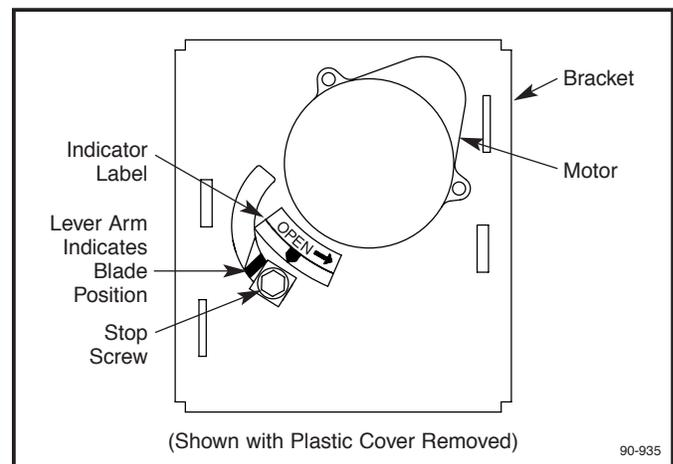

FIGURE 10 – DAMPER MOTOR AND BRACKET
4. If all is set up properly, the blower will turn on and the damper will open. Blower should be audible to the installer. To check opening of the damper, remove damper motor plastic cover and look for an orange lever arm move across the slot towards the stop screw (see Figure 10). The blower will remain on and the damper will remain open for 1 minute or until the knob is removed from the test position, whichever happens first.